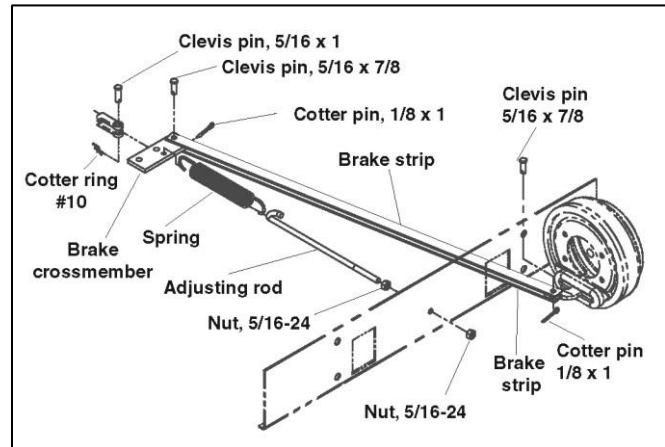

Figure 5-4
1. At rear brake assembly (Figure 5-4), remove cotter pin and clevis pin from brake strips at rear brake drum. Discard cotter pin and e-ring.
4. Secure brake strips to rear axle brake actuator arms (Figure 5-4) with new clevis pins and new cotter pins.